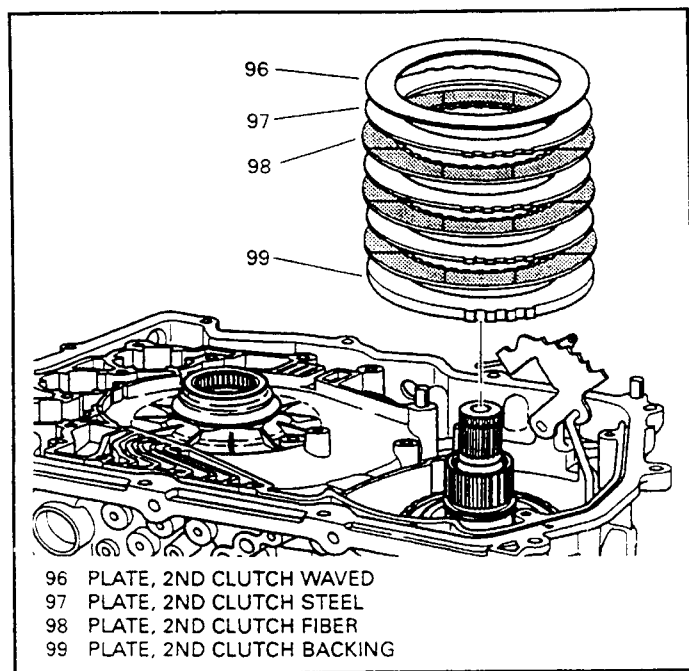

Figure 69
66. Remove the 2nd clutch plates, one wave plate, three steel plates, three lined plates, and one backing plate, as shown in Figure 69.